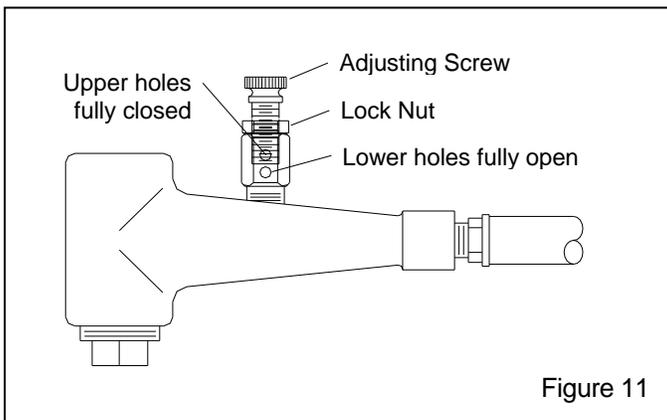

Figure 11
5.3 Media/Air Mixture, Figure 11
5.3.2 If media does not flow smoothly, loosen the lock nut, and adjust the metering screw until the upper holes in the metering stem are closed-off, and the lower holes are fully open, as shown in Figure 11. This adjustment is a starting point.